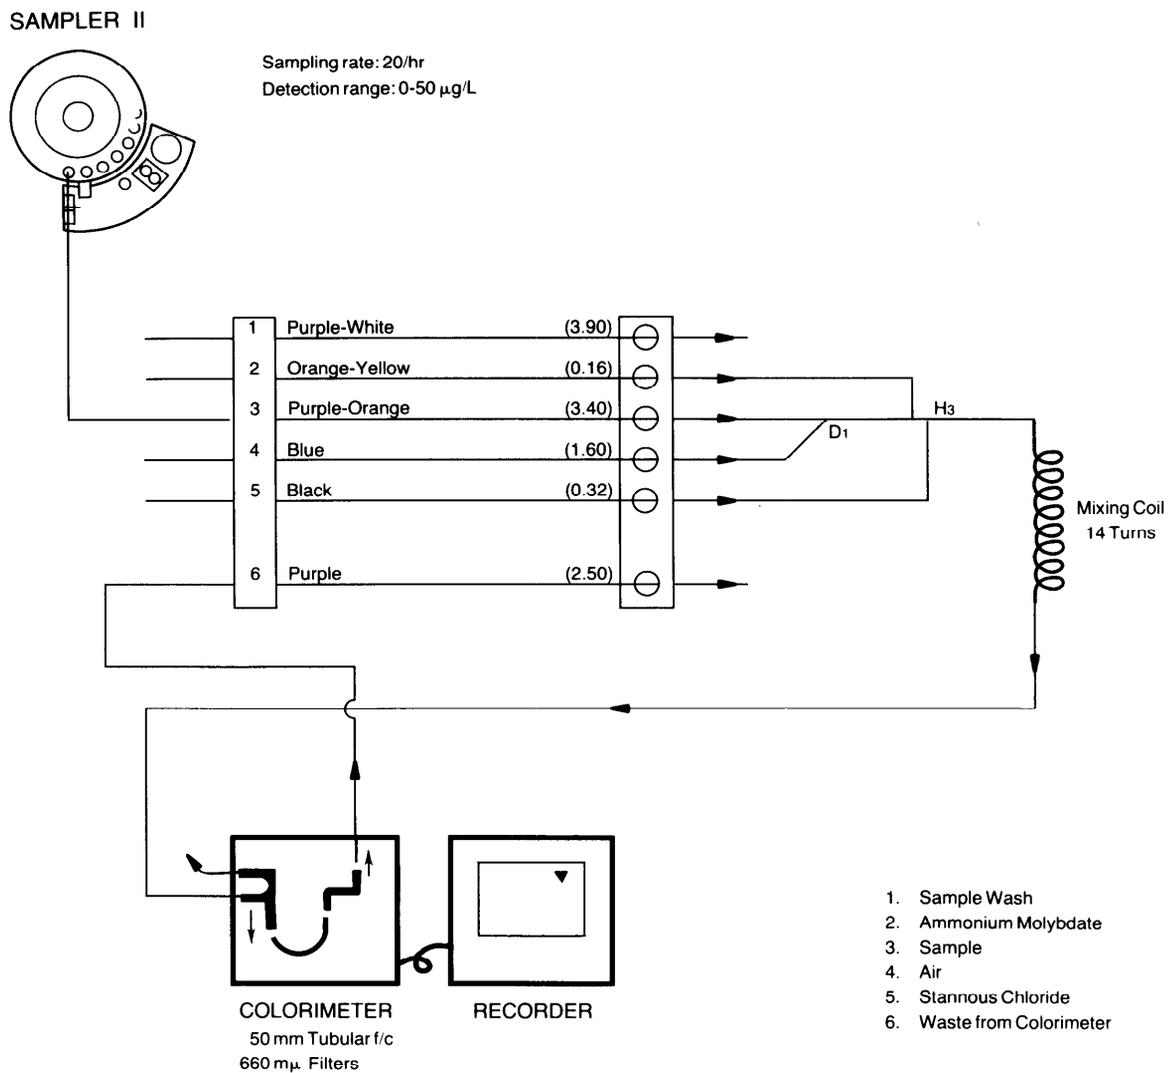

Fig. 4 Flow diagram for the determination of ortho-P in water by an autoanalyser.
- 4.2.1 Run the standards and samples at 20 samples per hour using the manifold shown in Figure 4.